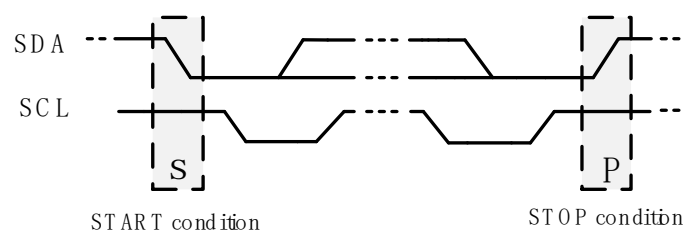

Figure 13. Definition of START and STOP conditions
Both data and clock lines remain HIGH when the bus is not busy. A HIGH-to-LOW transition of the data line while the clock is HIGH is defined as the START condition (S). A LOW-to-HIGH transition of the data line while the clock is HIGH is defined as the STOP condition (P) (see Figure 13).